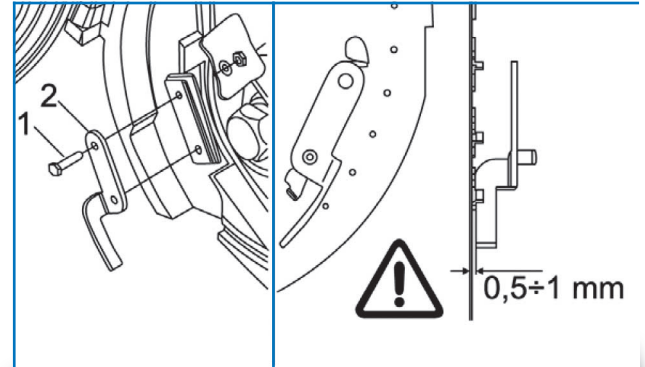

Figure 16
Use the scraper (2, Fig. 16) only for sugar beet seeds.
Disengage the scraper part by loosening the screw (1, Fig. 16) for large seeds like sunower, corn, soy bean and peanut.
Place the scraper like in Fig. 16 and tighten the screw (1). Be sure that disc and scraper are not telescoped. Replace the scraper in case of damage and deform.